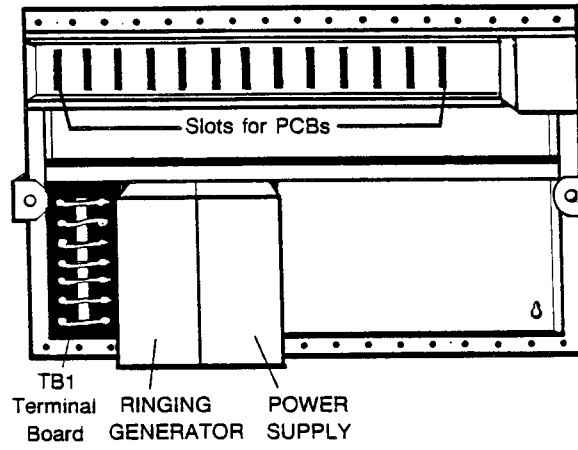
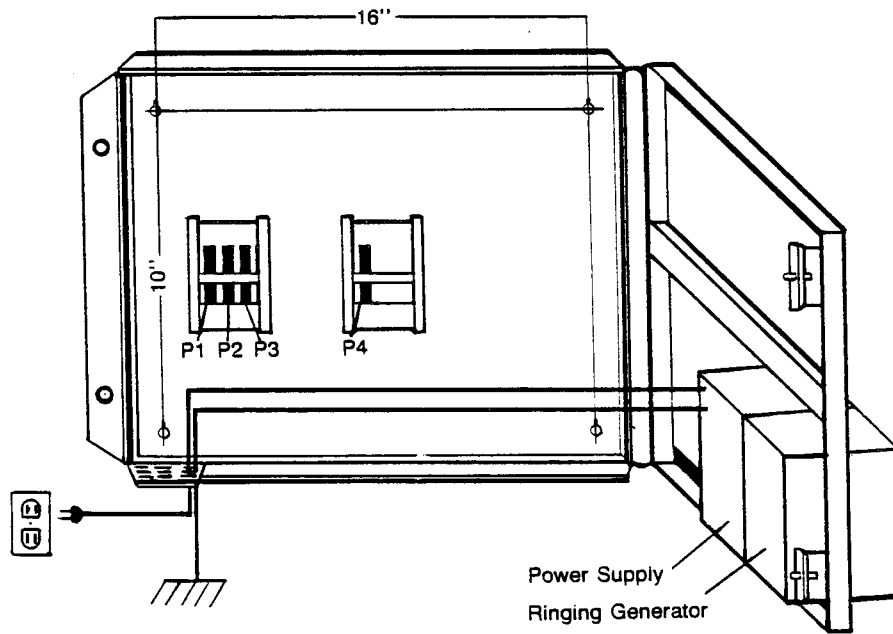

Figure 3 13 CARD KSU OUTSIDE VIEW
Figure 4 13 CARD KSU WITH HINGED SHELF OPENED
1.05 The 13 Card KSU is designed for wall mounting. Eight of the 13 card positions can be used for B-OPX-A PCBs (Figure 3). Remaining positions can be used to accommodate future tie-line applications. The 13 Card KSU is similar to the 6 Card KSU in that the Power Supply and Ringing Generator are mounted on the shelf (Figure 4). The 13 Card KSU contains four 50-pin plugs located on the back of the unit and a terminal block located on the front.